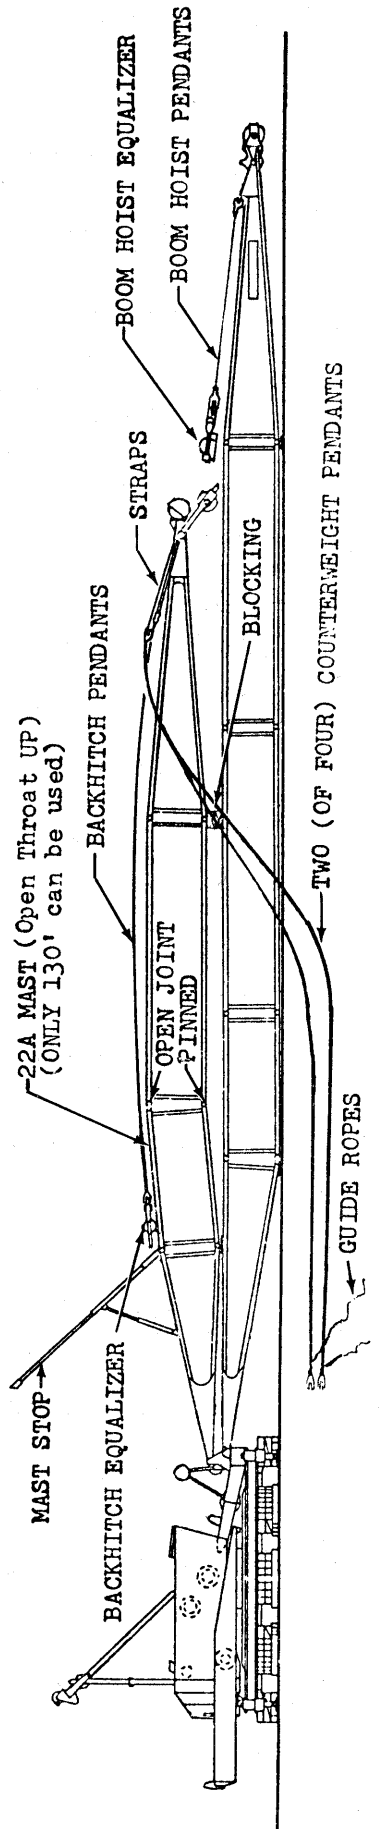

FIG. 2
4. First assemble the No. 27 boom according to the rigging drawing, then assemble the 130' No. 22A fixed mast on top of the boom. Attach the mast stop; install mast and boom rigging, and pendants (see FIG. 2).